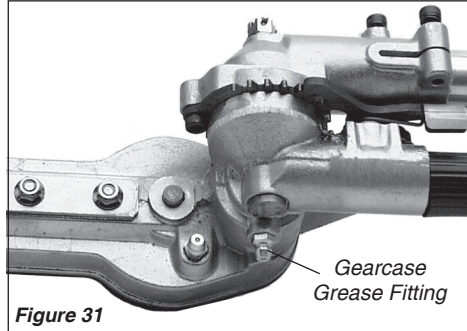

Figure 31
- c. Slide the gearcase out of the tube. Using a grease gun, pump lithium-base grease (about 10 grams) into the grease fitting on the gearcase until you see old grease being purged from the gearcase (Figure 31). Purged grease will be visible in the outer tube cavity. Clean up excess grease, then reassemble the gearcase onto the outer tube. Make sure the index bolt fits into the hole on the outer tube. Securely tighten both bolts.